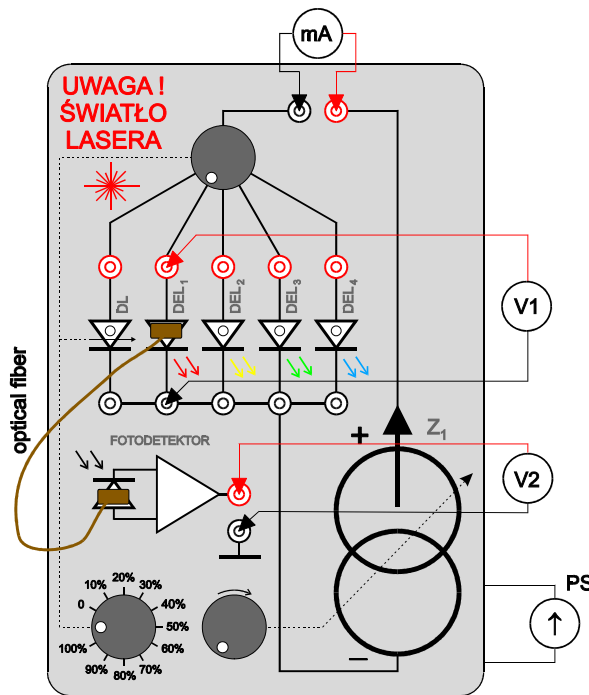

Fig. 1. Setup for determination of current-voltage-illumination characteristics of light-emitting diodes.
1. Unless the supervisor makes another suggestion, choose by yourself three of available light-emitting diodes (DEL) or laser diode (DL) for measurements. Connect the milliammeter (mA) and two voltmeters (V1) and (V2) to the experimental module as shown in Fig. 1. Turn the switch over the light-emitting diodes to select one of the chosen diodes and connect the diode with the photodetector using an optical fiber. Turn the other two regulators in the bottom part of the module to their extreme left position. Connect the power wires from the experimental module to the +5 V output of the power supply (PS - DF1731SB3A).